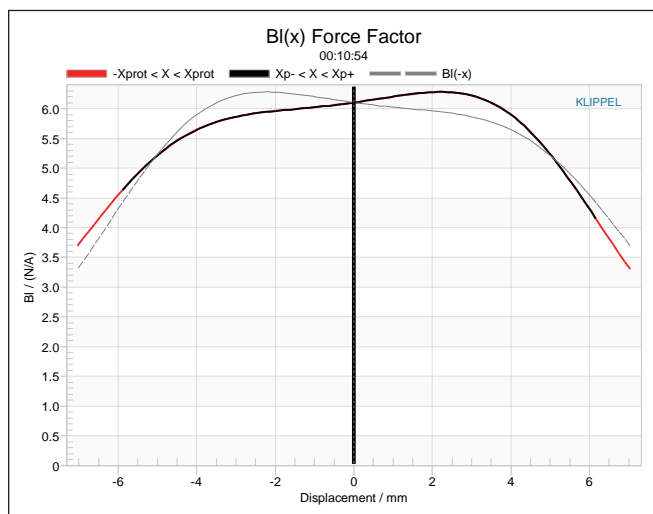
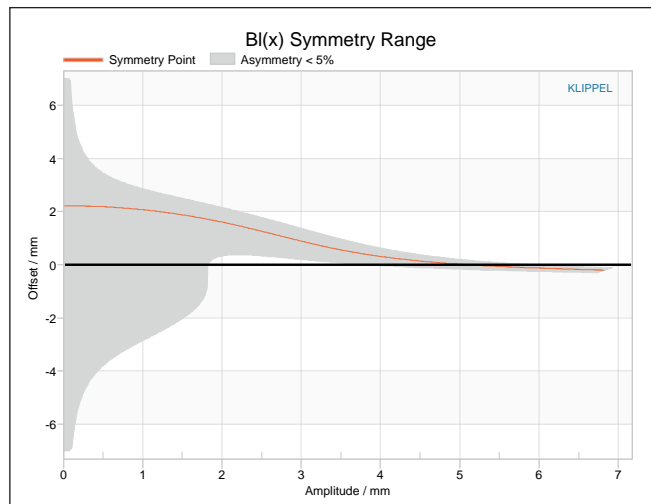

Figure 5: Klippel analyzer BI(X) curve for the TB Speaker W4-2315 woofer.
Figure 6: Klippel analyzer BI symmetry range curve for the TB Speaker W4-2315 woofer.
performed this month at Redrock Acoustics by Patrick Turnmire using the Klippel DA2 distortion analyzer. The BI(X) curve for W4-2315 (**Figure 5**) is moderately symmetrical and reasonably broad for a small diameter 4.5" driver, but also with an obvious degree of "tilt" and coil outward offset. The BI symmetry curve (**Figure 6**) shows 1.6mm forward offset once the graph reached a place of certainty at the 2.0mm point, decreasing to 1mm forward (coil-out) offset at the driver's physical Xmax at 2.8mm.